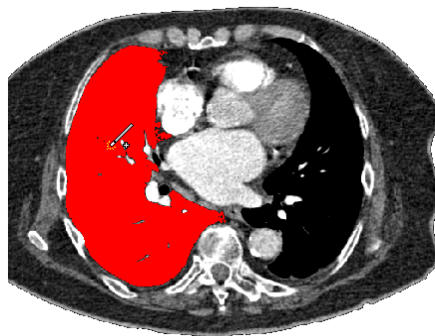

Figure 276 – Defining an area using the Magic wand drawing tool
7. Press and hold down the left mouse button to define the starting point and from there, drag the cursor to demarcate the area what you want to define. The further you drag the cursor away from the starting point, the wider the color range will be (see Figure 276).